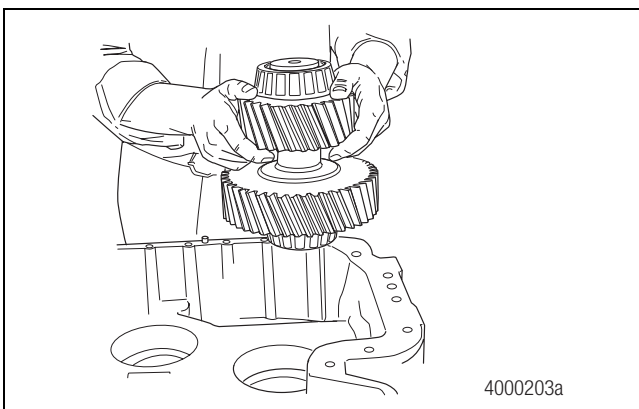

Figure 6.1
2. With the inside of the front case facing UPWARD, install the single-gear, or rear output shaft on MTC-4208 and -4210 transfer cases, and double-gear idler shaft assemblies. Figure 6.1.